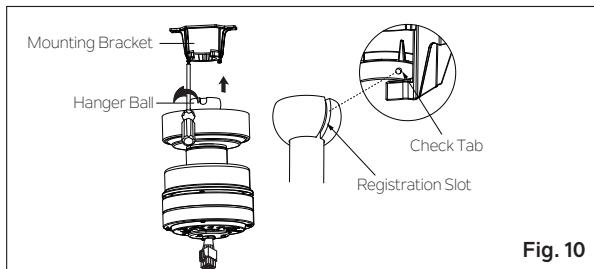

Fig. 10
Step 6. Lift the motor body into position and place the hanger ball into the mounting bracket. Rotate the entire assembly until the "Check Tab" has dropped into the "Registration Slot" and seats firmly. **(Fig. 10)**